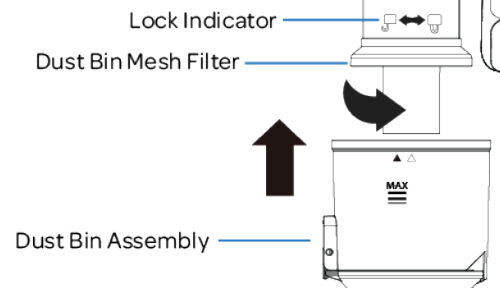

Figure 8
6. Replace the Dust Bin Mesh Filter by pushing the filter up onto the Main Body and rotating to the right to lock into place. (Figure 8)
7. Replace the Dust Bin Assembly (Figure 8, see instructions above).